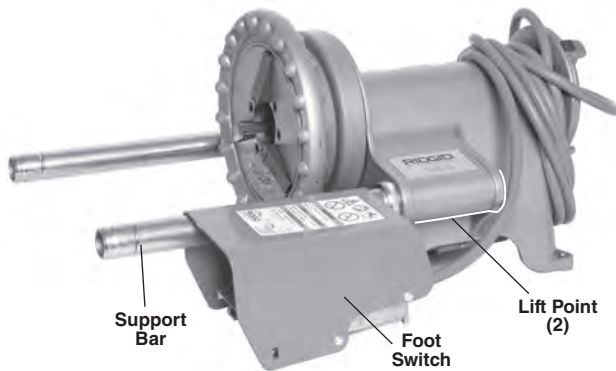

Figure 26 – Machine Only Prepared for Transport
1. Coil up the power cord and slide foot switch cover over one support bar as shown in *Figure 26*.